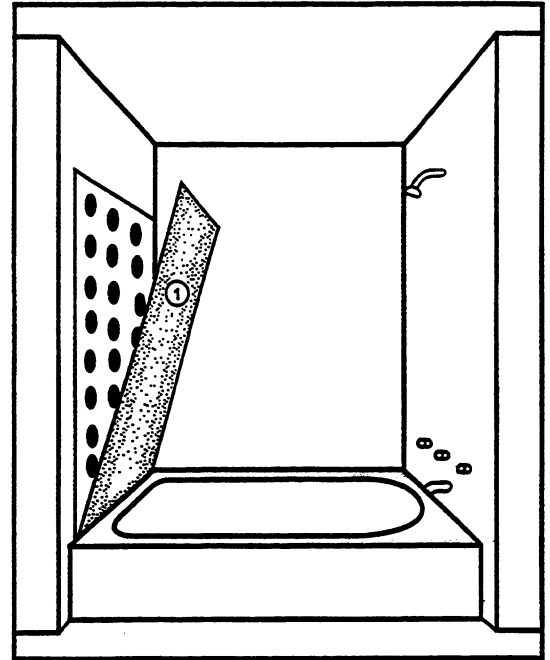
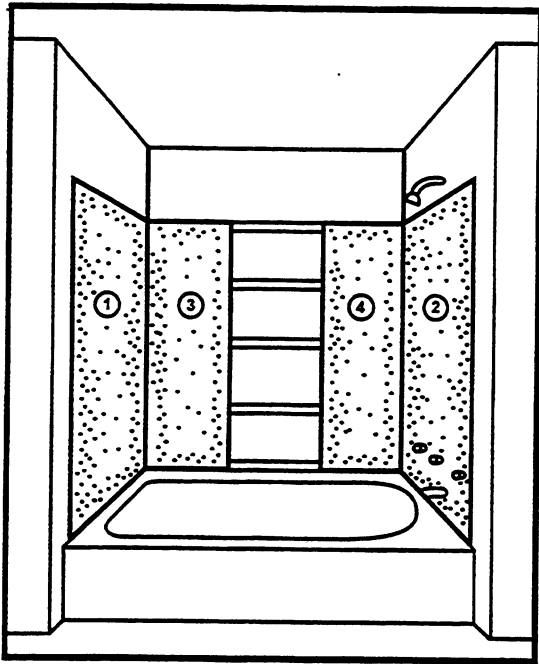
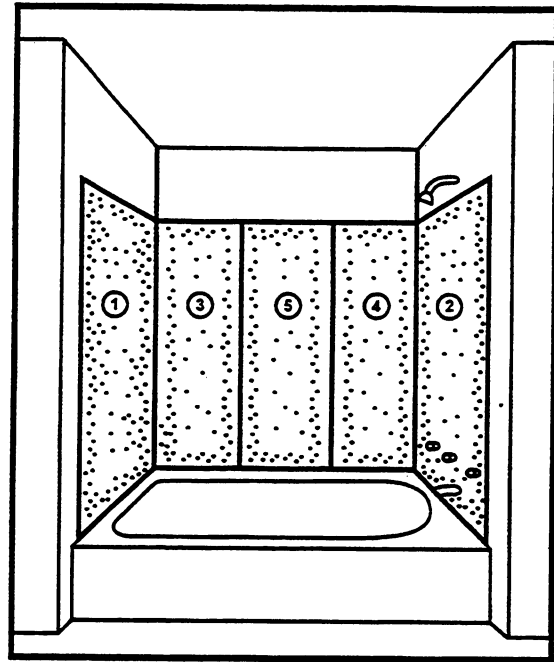

Fig. 1
Fig. 2
Fig. 3
- Step 2. Place panel (1) into position (See Fig. 1). If the gap between the right hand edge and the back wall exceeds 1/4", sand or file edge of panels to reduce gap to 1/4" maximum. With a caulking gun, apply a 3" to 4" diameter circle of adhesive 1/4" thick on the wall (not the panel) on 8" to 10" centers as shown in Figure 1. Use approximately one full tube per panel. Place panel into position and press panel firmly into place. Panel should be positioned 1/16th inch above the tub deck surface. **CAUTION! DO NOT BEND PANEL TO CONFORM TO A BOWED WALL. THE RESILIENCY OF THE PANEL WILL BREAK THE BOND OF THE ADHESIVE TO THE WALL.**
- Step 3. Place masking tape on the finished side of panel (2) approximately in the location for the plumbing fixtures and mark the hole centerlines. Scribe a circle of the diameter required at each hole location. Drill a 1/4" diameter hole inside the circle and cut out the circle using a saber saw. Install panel (2) as described in Step 2.
- Step 4. Install panels (3) and (4) in a similar manner as described in Step 2, except that the gap at the end panel should be as small as possible (See Fig. 2 and 4).
- Step 5. Trim the (5) 1/4" x 4" pieces of plywood or hardboard to fit between panels (3) and (4) and attach to the back wall with nails and adhesive (See Fig. 2 and 5). Apply adhesive to the outside face of the wooden strips and put panel (5) in place (See Fig. 3).